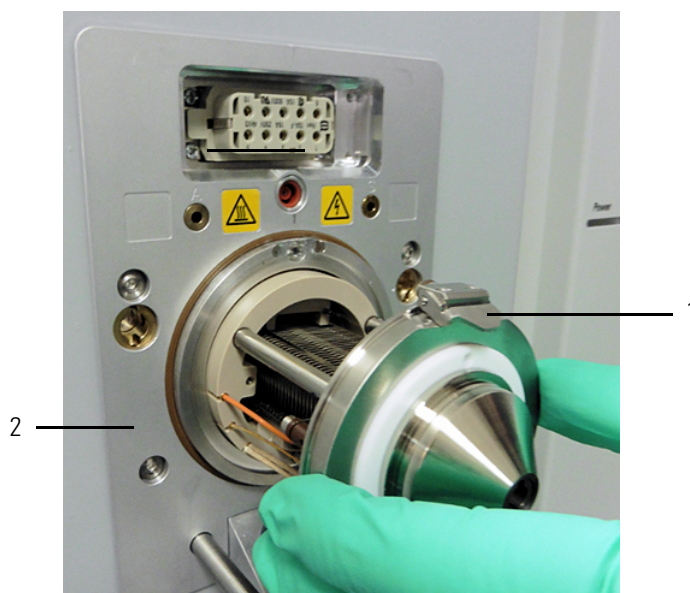

Figure 8-16. Removing the ion source interface from the vacuum manifold
5. Grasp the ion source interface with your fingers, and then carefully pull it out of the vacuum manifold (Figure 8-16).
1. Orient the ion source interface with the release latch at the top (see Figure 8-16 on page 8-36).